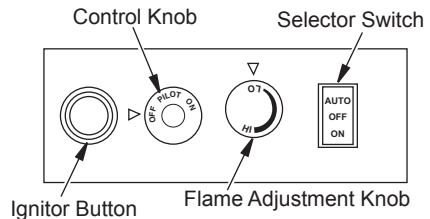

Figure 11 - Control Knob and Ignitor Button Locations
5. Wait five (5) minutes to clear out any gas. Then smell for gas, including near the floor. If you smell gas, STOP! Follow "B" in the safety information, page 10. If you don't smell gas, go to the next step.
6. Press in and turn control knob counterclockwise  to the PILOT position. Press in control knob for five (5) seconds (see Figure 11).